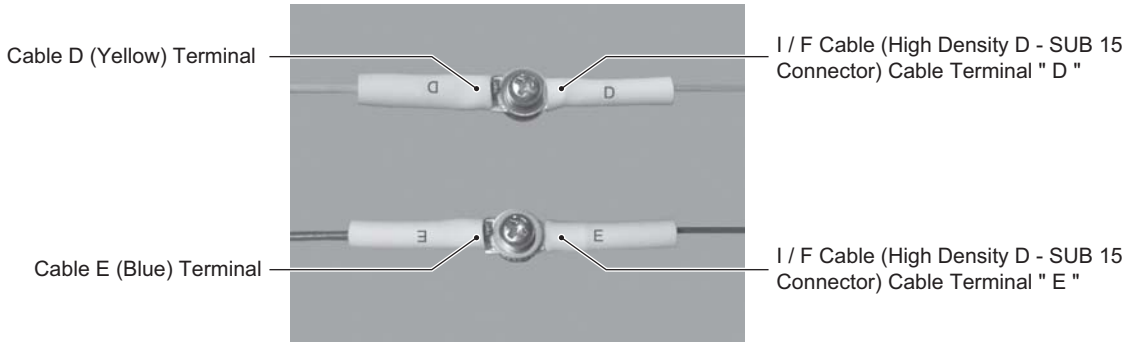

Fig. 16
- (1) As shown in Fig. 16, connect the terminal of Cable D (Yellow) and the terminal " D " of I / F Cable (High Density D - SUB 15 connector) using the provided Screw and Nut. Firmly affix the Screw at the O-type terminal side of Cable D (Yellow) (Fig. 16).
- (2) As shown in Fig. 16, connect the terminal of Cable E (Blue) and the terminal " E " of I / F Cable (High Density D - SUB 15 Connector) using the provided Screw and Nut. Firmly affix the Screw at the O-type terminal side of Cable E (Blue) (Fig. 16).